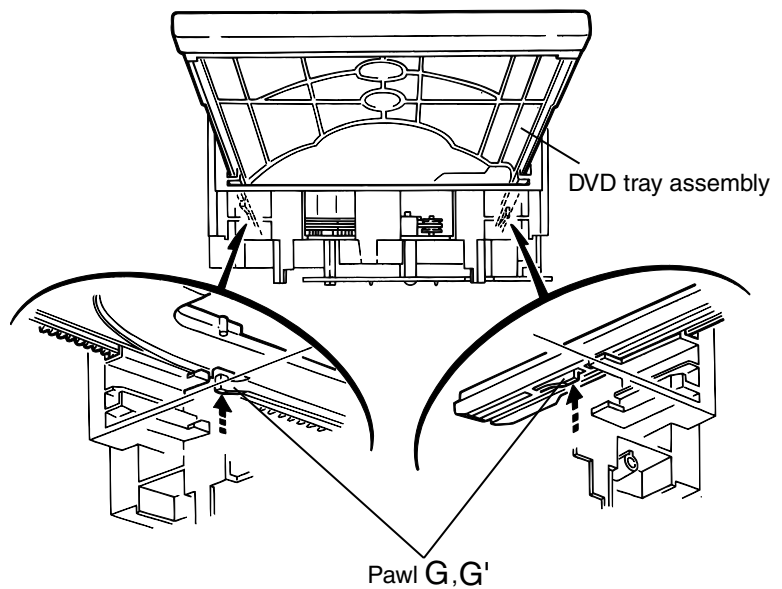

Fig.9
15. At the position where the DVD tray assembly has stoppend, pull out the DVD tray assembly while pressing the two pawls "G and G' " on the back side of DVD tray assembly(See Fig.9). In this case, it is easy to pull out the assembly when it is pulled out first from the stage DVD tray assembly.